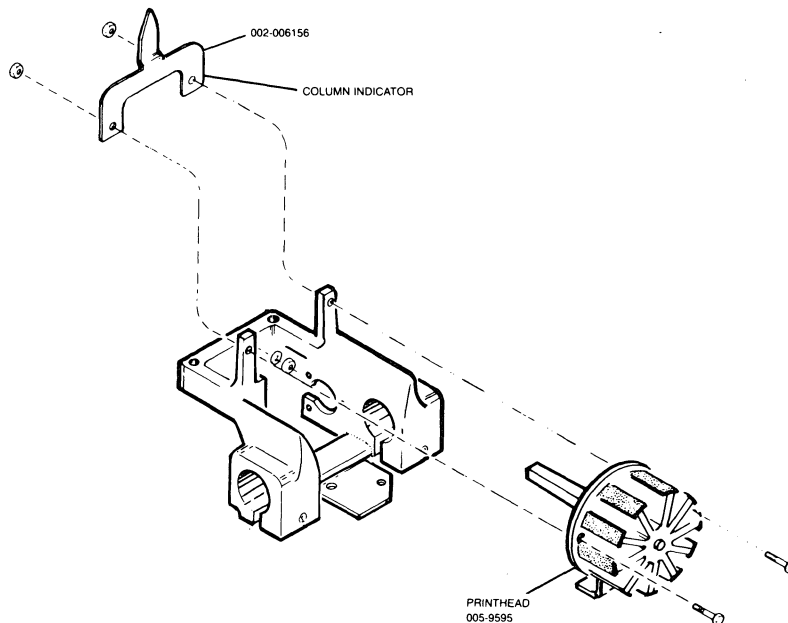

Figure 5.5 Printhead Removal
6. Remove the two screws attaching the printhead and column indicator to the carriage (see Figure 5.5).